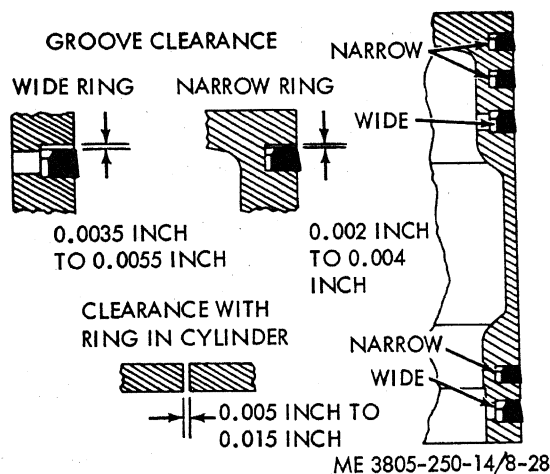

Figure 8-28. Piston ring installation.
(a) Remove four capscrews (49, fig. 8-28) and lockwashers (50) securing the rear cover (51) to the housing. Discard gasket (52) and remove bushing (53) from the cover.
1. Install bushing (25). If new wrist pin bushings are to be used, press them into connecting rods so that the oil hole in the bushing aligns with the oil hole in the rod. Ream the bushings to provide between 0.0001 and 0.0006 inch clearance on the wrist pin.
2. Position the connecting rod in the piston and press in the wrist pin (24). Make sure the lock hole in the piston and wrist pin are aligned. Install new lockwire (23), snapping the short end into the hole in the piston skirt.
3. Install new piston rings (22), ensuring that ring gaps are staggered. Refer to figure 8-28 for correct installation.